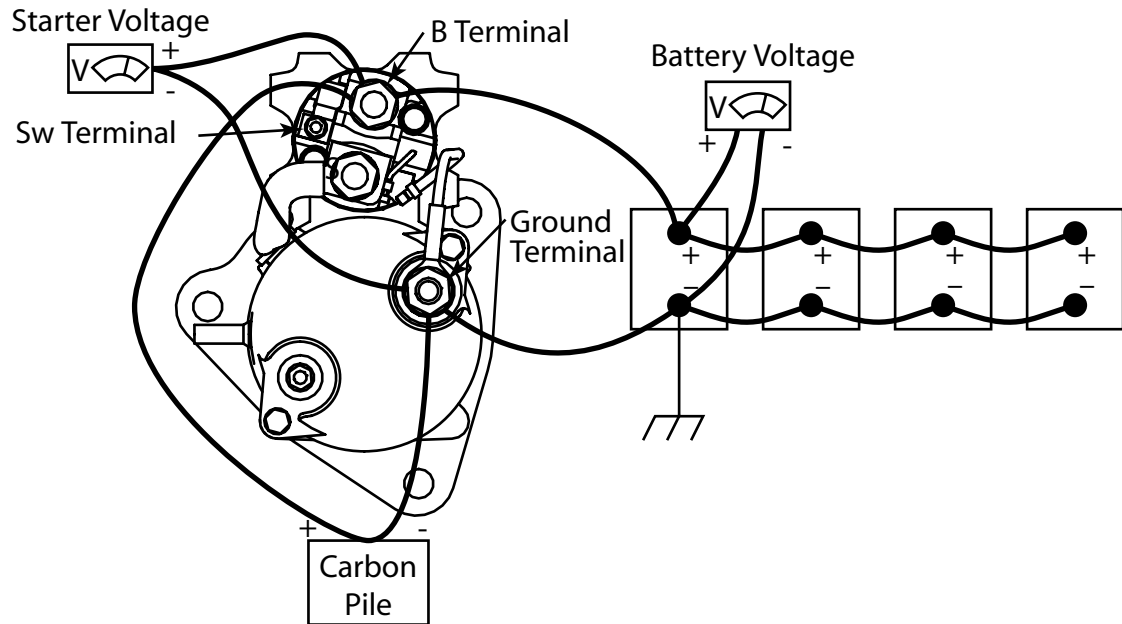

Figure 10: Step 3A – Main Cables
- 1) As shown in Figure 10, connect a carbon pile load tester to B and ground terminals of the starter
- 2) Using the wiring configuration in Figure 10, obtain: